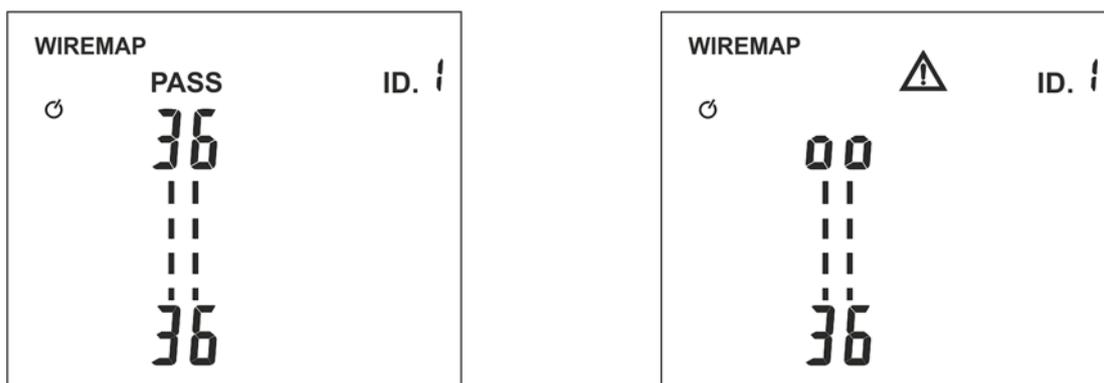

Fig. 13: Displaying the test on COAX cable with F connector
4. Press the **TEST/←** key. The instrument carries out the test and displays the message “**PASS**” for a correct test (see Fig. 13 – left side) or symbol “**⚠**” together with flashing pairs in case of interrupted cable (see § Fig. 13 – right side).